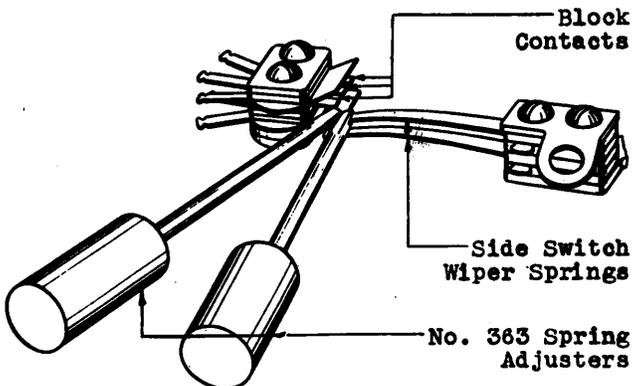

Fig. 9 - Method of Adjusting the Side Switch Wiper Tips
(3) If a wiper does not make a knife edge contact on the block contacts, or if the form of the wiper tip requires adjustment hold the wiper at the base of the tip of the wiper with a No. 363 spring adjuster and adjust the tip of the spring with another No. 363 spring adjuster as shown in Fig. 9.